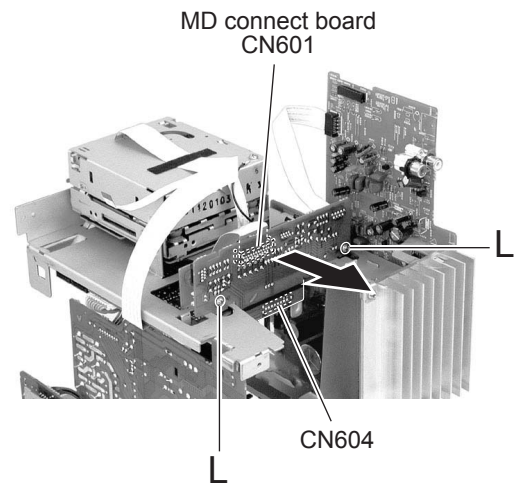

Fig.27
2.1.11 Removing the MD connect board (See Fig.27.)